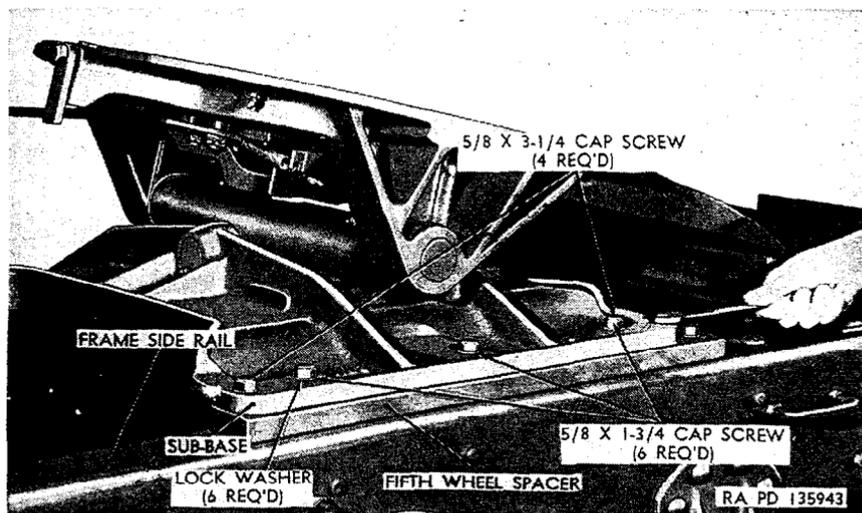
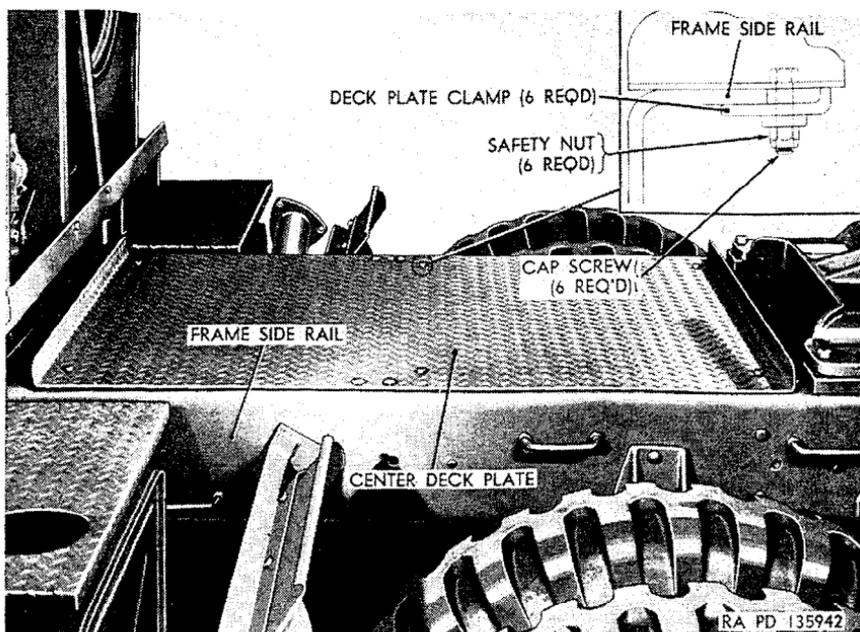

Figure 319. Left front view of fifth wheel M52.
Figure 321. Top left view of center deck plate M52.
ter deck plate (fig. 321) (M52 only). On the tractor truck M52, the approach plate and center deck plate are bolted directly to the frame left and right side rails. The fifth wheel is bolted to the side rails and fifth wheel spacers (fig. 319), which are bolted to the side rails. On the tractor wrecker truck M246, the approach plates are a part of the crane body, and the fifth wheel is bolted to both the crane-body side rails and the truck-frame side rails.
- (1) Remove six cap screws (fig. 319) and lockwashers and four cap screws and safety nuts (located on inside of frame side rails) securing fifth wheel subbase to fifth wheel spacers and frame side rails.
- (2) Using overhead hoisting equipment, remove fifth wheel from vehicle.
- (1) Using overhead hoisting equipment, lift fifth wheel into position on spacers (fig. 319) bolted to frame side rails, and aline mounting screw holes in subbase and spacers.
- (2) Install six $\frac{5}{8}$ x $1\frac{3}{4}$ cap screws (fig. 319) with lockwashers in holes in subbase and spacers, and tighten. Insert four $\frac{5}{8}$ x $3\frac{1}{4}$ cap screws through holes in subbase and spacer, install four safety nuts on cap screws, and tighten.
- (1) Remove six cap screws (fig. 321), safety nuts, and deck plate clamps securing center deck plate to frame side rails.
- (2) Lift center deck plate from vehicle.
- (1) Lift center deck plate (fig. 321) into position on frame side rails, and aline mounting screw holes in plate and side rails.
- (2) Insert six cap screws (fig. 321) in holes in plate and side rails, and install six safety nuts and deck plate clamps on cap screws. Tighten cap screws and nuts.